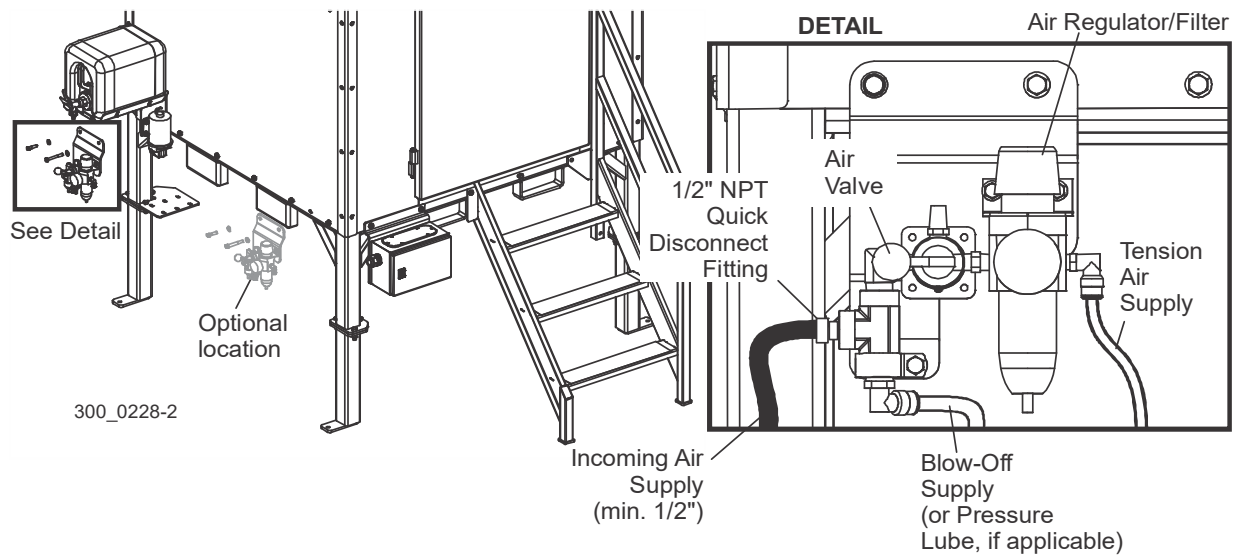

FIG. 3-29
1. Install a 1/2" NPT quick disconnect fitting to the fitting supplied in the air valve at the rear of the operator station. See Fig. 3-29.